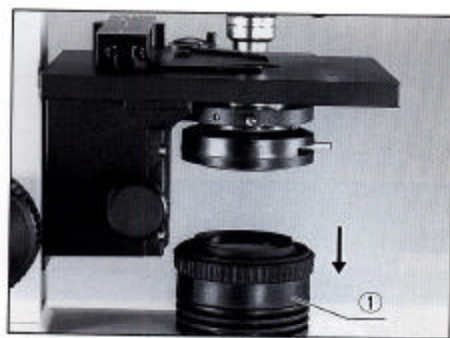

Fig. 10
- 1) Aligning the positioning clips of the iris diaphragm frame to the cut-outs in the filter mount ① on the base, insert the iris diaphragm until it clicks in position. (Fig. 10)